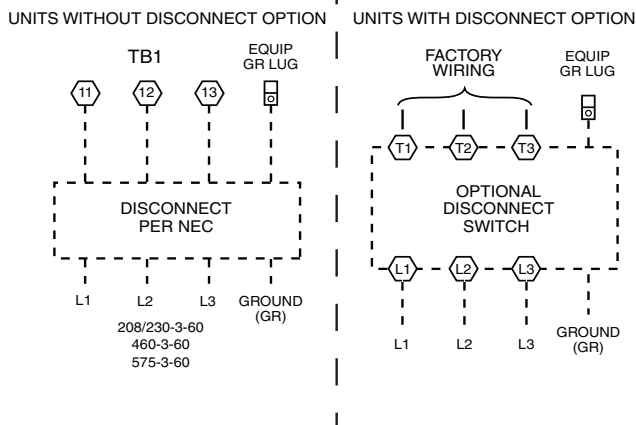

Fig. 44 — Power Wiring Connections
Size wire based on MCA (Minimum Circuit Amps) on the unit informative plate. See Fig. 44 for power wiring connections to
3. Install power lines to terminal connections as shown in Fig. 44.